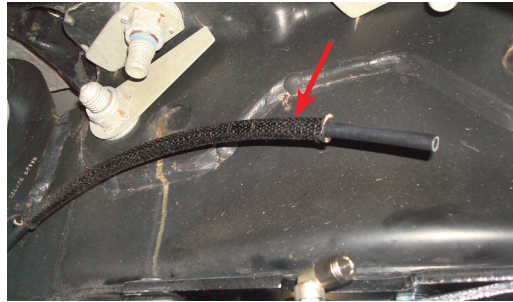

fig. E.1
1. Before installing the passenger's side (right) air line, install the hose heat shield over the hose (Fig. E.1). Once the air line has been inserted into the fitting, align the heat shield so that it is protecting the air line from the exhaust pipe. Secure the air line to the frame with zip ties.